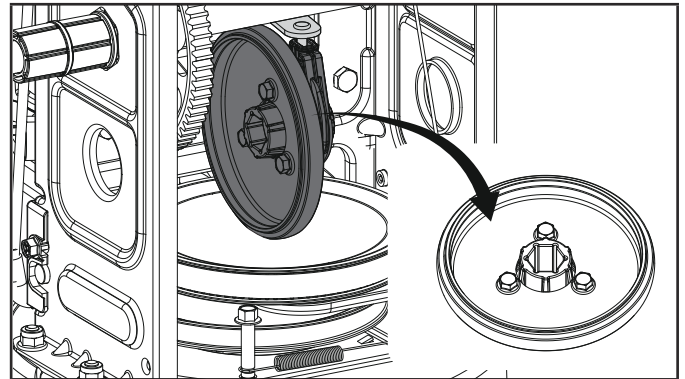

Figure 45
6. Remove the friction disc (Fig. 45).